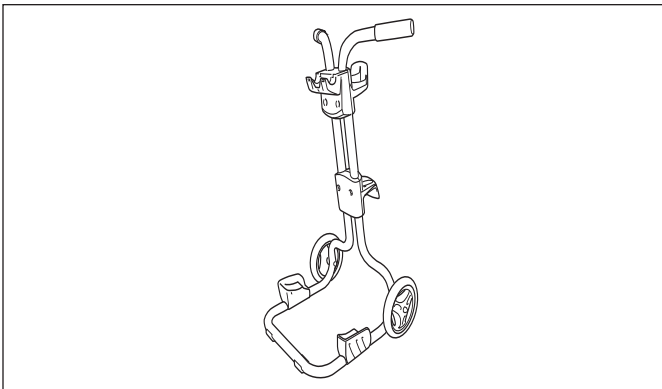

Figure 12. Transport and Storage Caddy Assembled
- The transport caddy is now ready to use as shown in Figure 12.